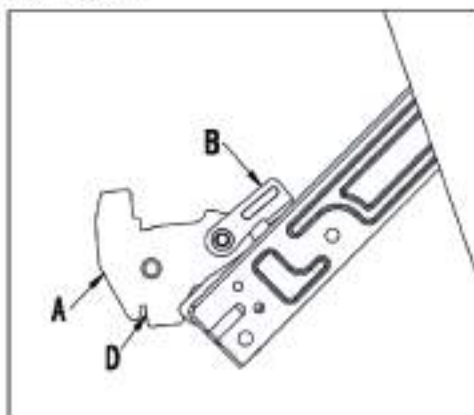

Fig. 1
- Open the door completely and lift the 2 levers "B" (fig.1);